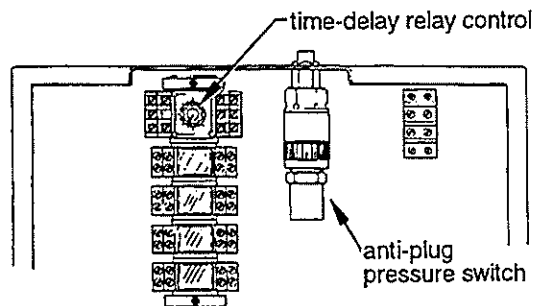

Fig. 16 Control box time-delay relay
2. **PRESET TIME-DELAY RELAY TO "2"** Preset the control box time-delay relay control (fig.16) to "2" (approximately 3.5 seconds delay). The "2" setting has a good chance of being the final setting.
Adjust the time-delay (fig.16) for maximum load per plunger cycle. Start with the time-delay relay control at "2" (approximately 3.5 seconds).